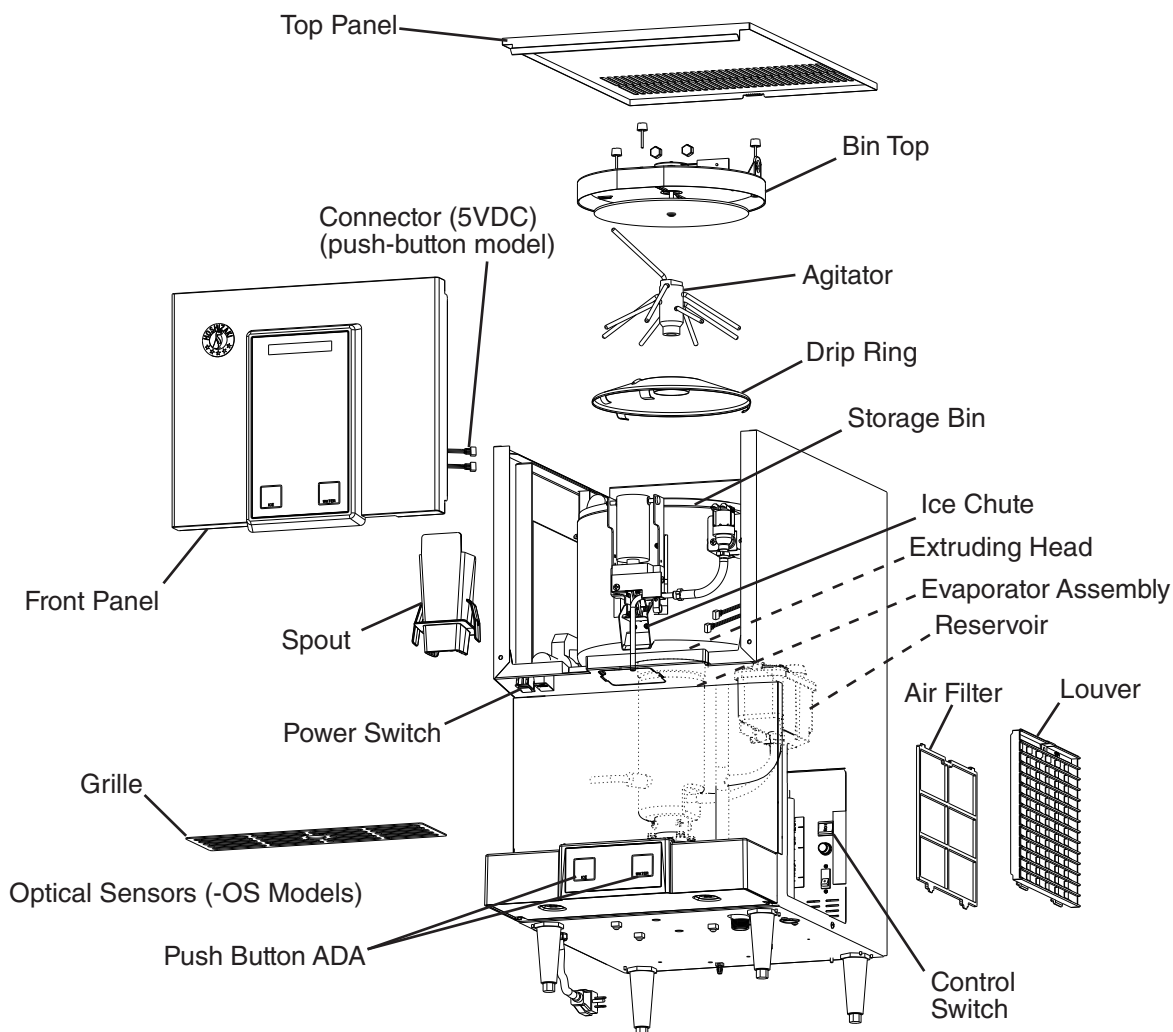

Fig. 6
- 3) Move the power switch to the "OFF" position, then remove the louver and air filter. See Fig. 6. Move the control switch to the "DRAIN" position, then move the power switch to the "ON" position. Allow the water system to drain completely (you will see the water draining into the drain pan). Move the control switch to the "OFF" position.
3) Move the power switch to the "OFF" position, then remove the louver and air filter. See Fig. 6. Move the control switch to the "DRAIN" position, then move the power switch to the "ON" position. Allow the water system to drain completely (you will see the water draining into the drain pan).